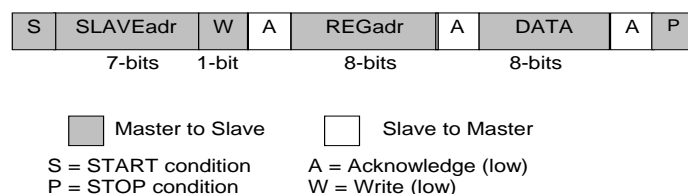

Figure 10: I²C Byte Write (SDA Line)
The I²C bus is monitored for a valid slave address whenever the interface is enabled. It responds immediately when it receives its own slave address. The acknowledge is done by pulling the SDA line low during the following clock cycle (white blocks marked with A in Figure 10 and Figure 11).
The protocol for a register write from master to slave consists of a START condition, a slave address with read/write bit, and the eight-bit register address followed by eight bits of data, terminated by a STOP condition. DA9142-A responds to all bytes with acknowledge (A), see Figure 10.